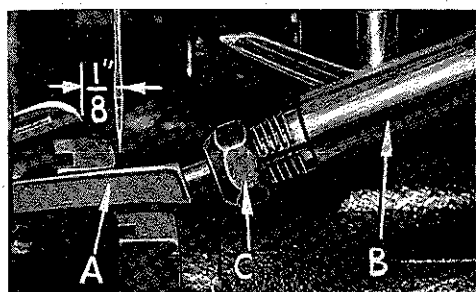
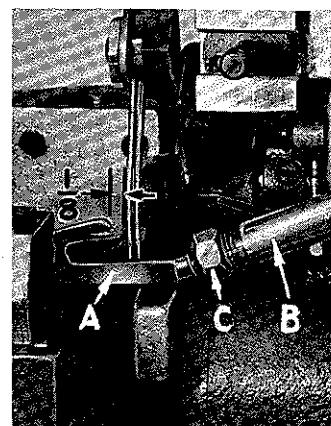

Fig. 5
Fig. 5A
At this point, insert lower looper (A, Fig. 5) for Style 39500 JK or lower spreader (A, Fig. 5A) for Style 39500 JL, into bar (B). With lower looper or spreader at the left end of its stroke, set looper point  $1/8$  inch from center of needle (Fig. 5) or set lower spreader  $1/8$  inch to the left of the centerline of left needle (Fig. 5A), using looper gauge No. 21225 G- $1/8$ . Do not have lower looper or spreader deflecting needle. Tighten nut (C). Now assemble differential (front) feed dog.